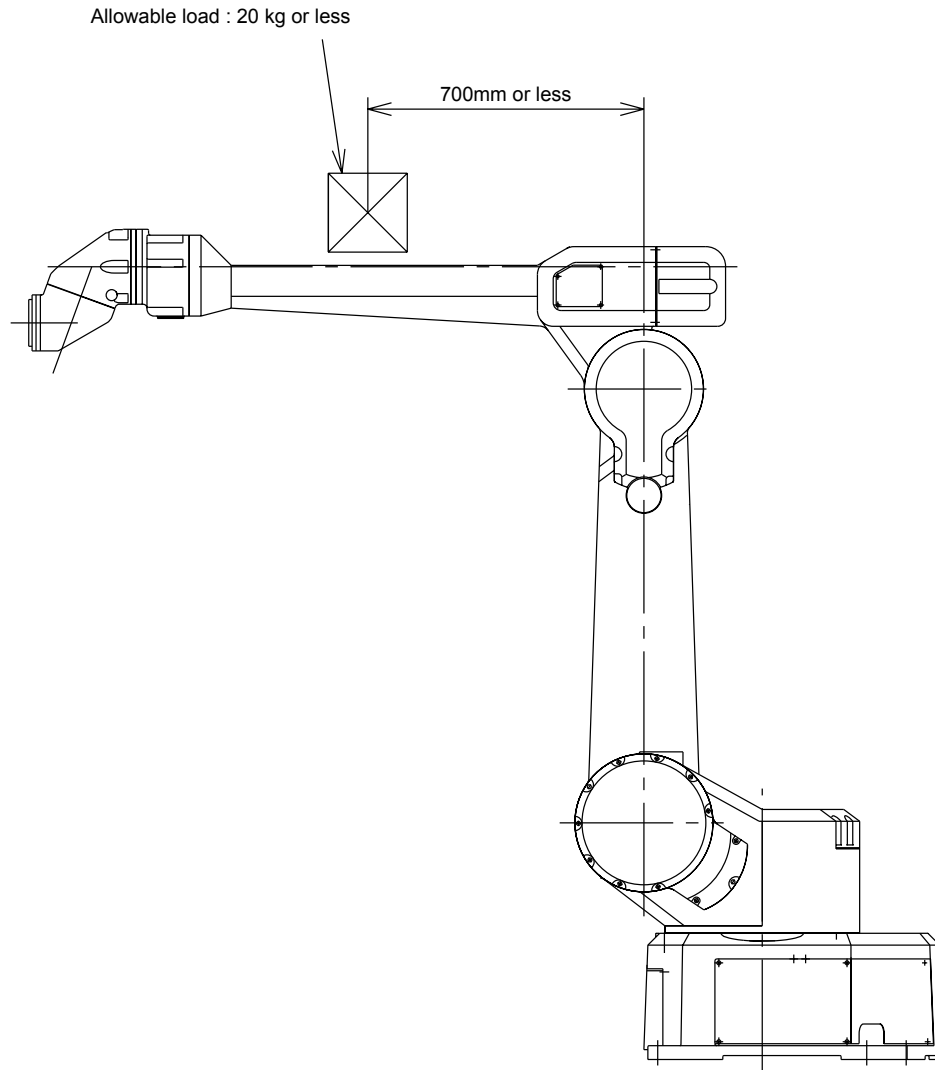

Fig. 16 Device Mounting Position
- Mounting position: Refer to " Fig. 16 Device Mounting Position ".